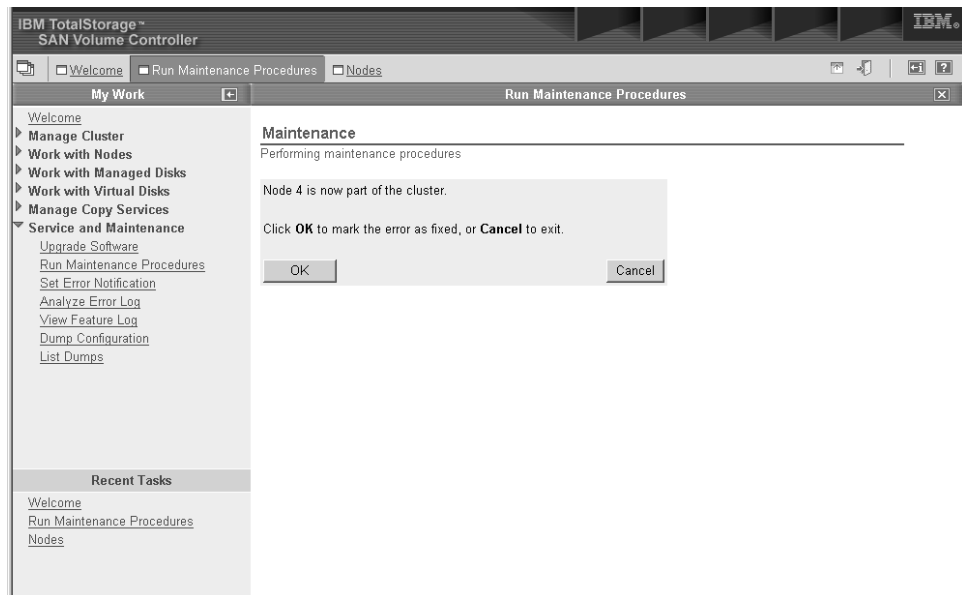

Figure 53. Example of what is displayed for a repair action
- One or more panels might now be displayed instructing you to replace parts or perform other repair activity. If you are not able to complete the actions at this time, you can click Cancel. When you return to the directed maintenance procedures, the repair can be restarted from the beginning. When the actions that you are instructed to perform are complete, click OK. When the last repair action is completed, the directed maintenance procedures might attempt to restore failed devices to the cluster. Figure 53 shows an example of what might be displayed.